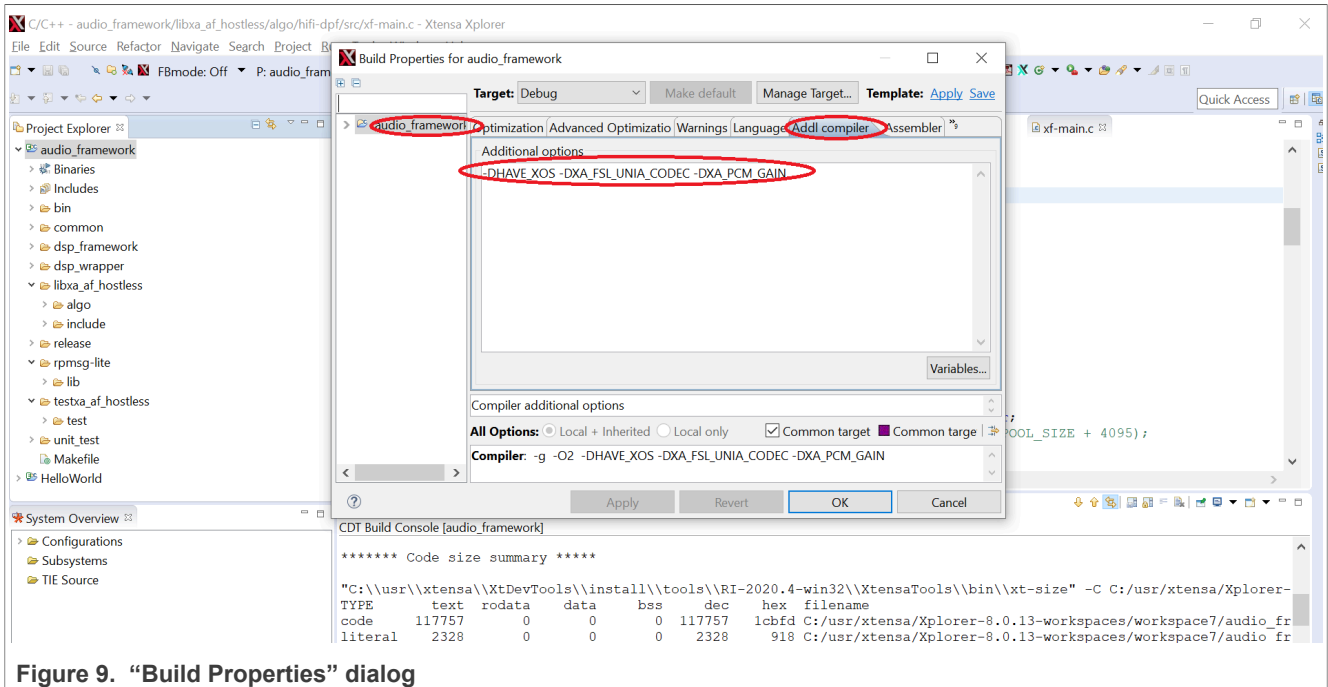

Figure 9. “Build Properties” dialog
1. Right-click the name of the DSP framework project in the “Project Explorer” panel and choose the “Build Properties...” option. You will see the “Build Properties for dsp\_framework” dialog. The dialog is shown in Figure 9.